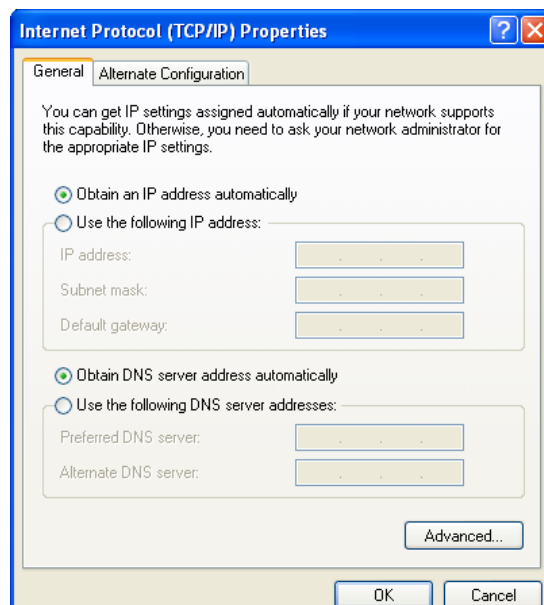

Figure 97: Internet Protocol Properties
6. Select the Properties button. The Internet Protocol Properties window appears. See Figure 97.